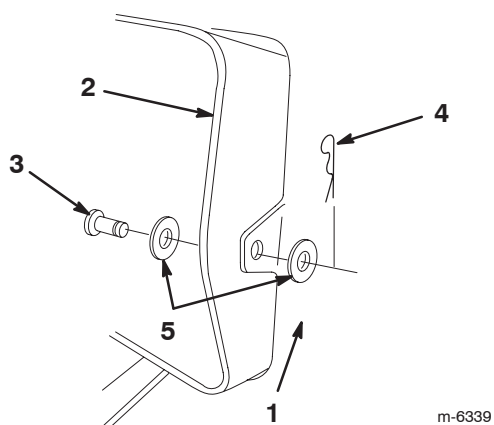

Figure 13
6. Raise the grass collector and remove the hairpin, 2 washers, and clevis pin that secure the discharge tube to the rear plate (Fig 13).
15. Raise the grass collector and install the clevis pin, 2 washers, and hairpin to secure the discharge tube to the rear plate (Fig 13).
6. Raise the grass collector and remove the hairpin and clevis pin that secure the discharge tube to the rear plate (Fig 13).
12. Raise the grass collector and install the clevis pin and hairpin to secure the discharge tube to the rear plate (Fig 13).